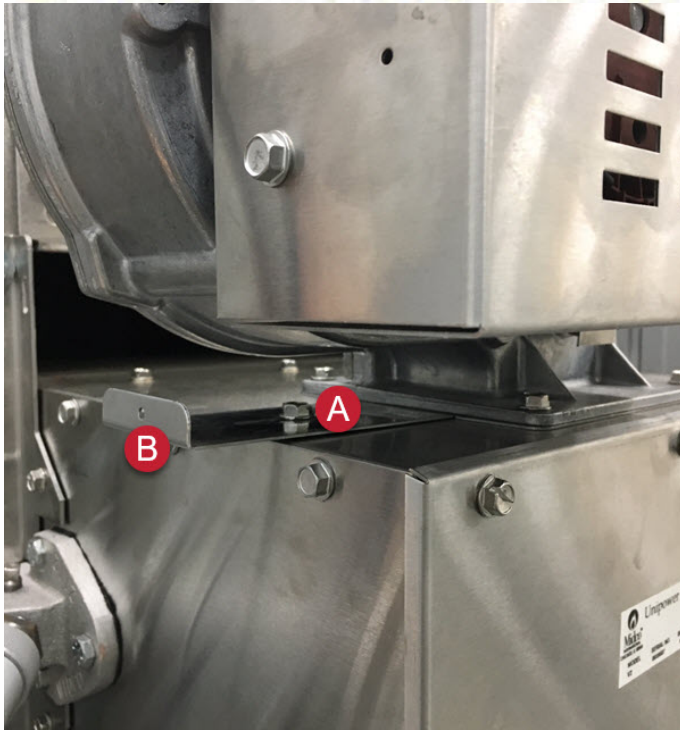

Figure 8. Combustion blower air damper
2. If the damper needs to be reopened, refer to Figure 8 and complete the following steps: